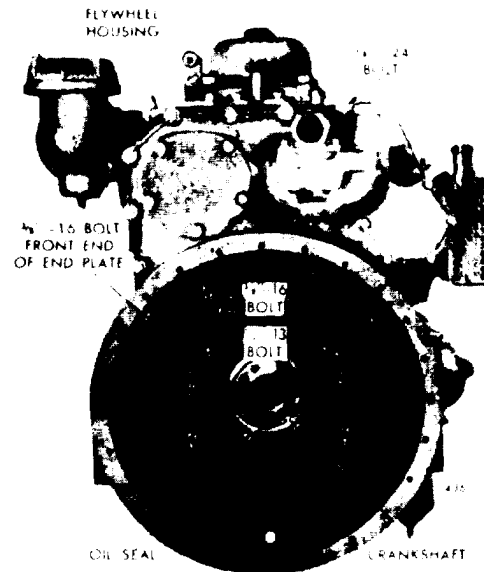

Figure 11B-105. Flywheel Housing Mounting
5. To guide the flywheel housing until it clears the end of the crankshaft, thread four pilot studs J 1927-01 into the cylinder block (see Figure 11B-106 on page 11B-68).